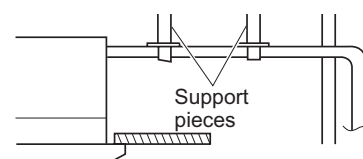

Fig. 2-188
- Do not apply force to the piping on the unit side when connecting the drain pipe. The pipe should not be allowed to hang unsupported from its connection to the unit. Fasten the pipe to a wall, frame, or other support as close to the unit as possible. (Fig. 2-188)